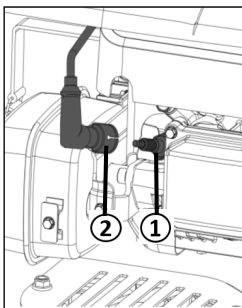

Figure 38
1. Remove the spark plug connector (Figure 38) from the spark plug.